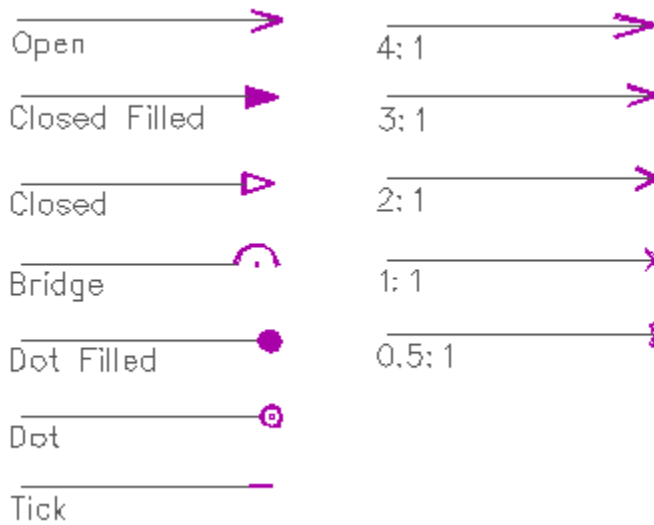

Figure 13.3: Examples of different arrowhead styles (left) and aspect ratios (right)
3. Choose an arrowhead style. Click on Style in the Arrows menu. A list of five arrowhead styles appears (see Figure 13.3 for examples).
8. Use the value menu or type a number for the aspect ratio and press (Enter). See Figure 13.3 for examples of aspect settings. An ANSI-standard arrowhead has an aspect ratio of 6.